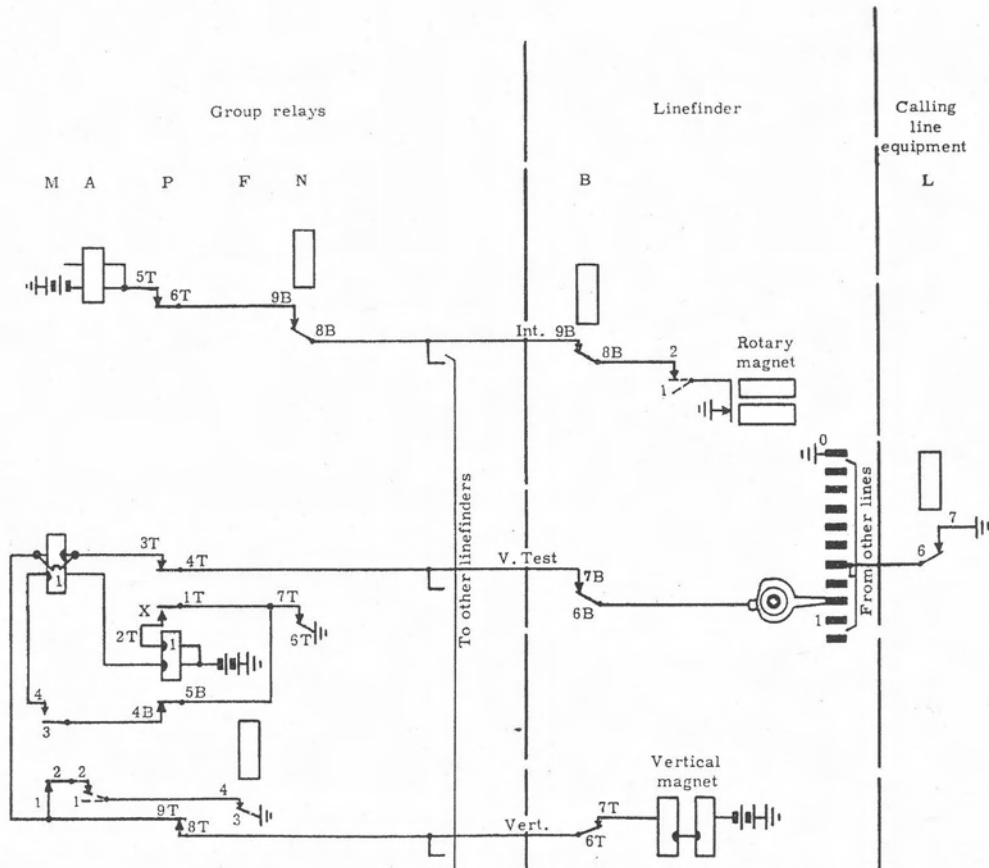

Figure 16. Vertical stepping.
**4.3 Vertical stepping.** Linefinder relay B also (figure 16) operates group relay A. Group relay A operates the vertical magnet of the preselected linefinder. The vertical magnet lifts the shaft and wipers one step and opens the vertical-interrupter contacts. The vertical-interrupter contacts release group relay A which releases the vertical magnet. Upon releasing, the vertical magnet closes the vertical-interrupter contacts which operate relay A. This cycle repeats until the wipers are lifted opposite the level of contacts containing the calling line. The vertical wiper then touches the marked vertical contact.